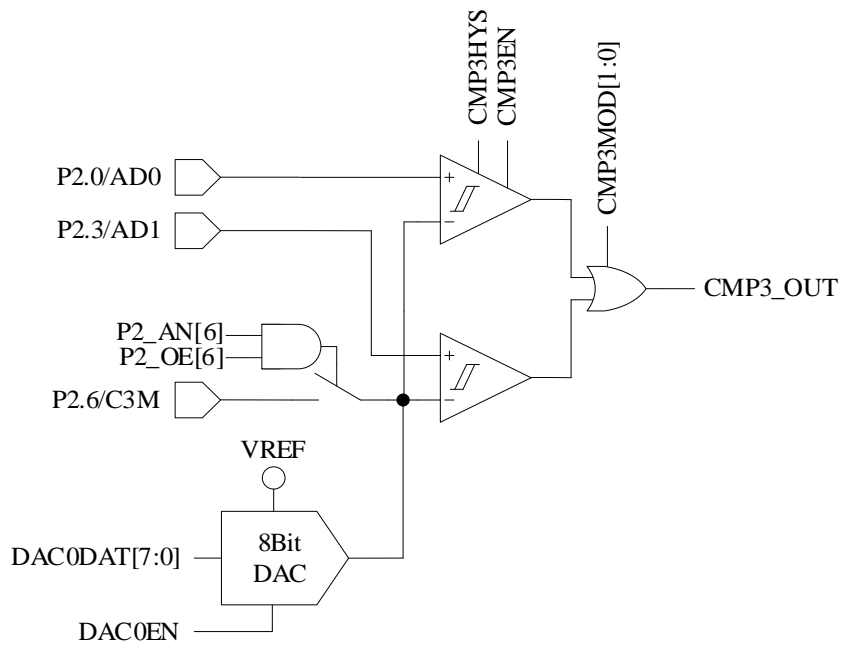

Figure 29-3 Dual-comparator Input Mode
- When CMP3MOD = 01, CMP3 works in dual comparator input mode. The connection of input and output pins are shown in Figure 29-3.